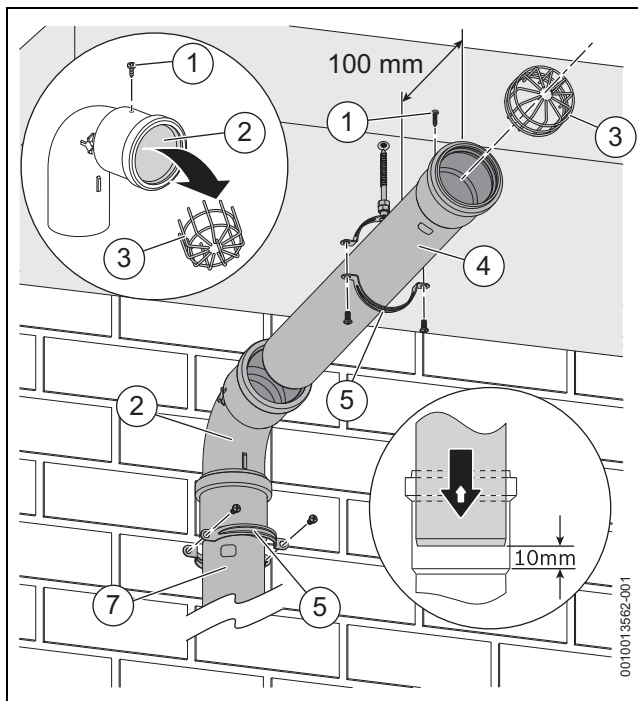

Fig. 58 Fitting extension under balcony/overhang
Refer to figure 58.
- Screw in the support clamp into the balcony/overhang plug to the distance shown in figure 58.